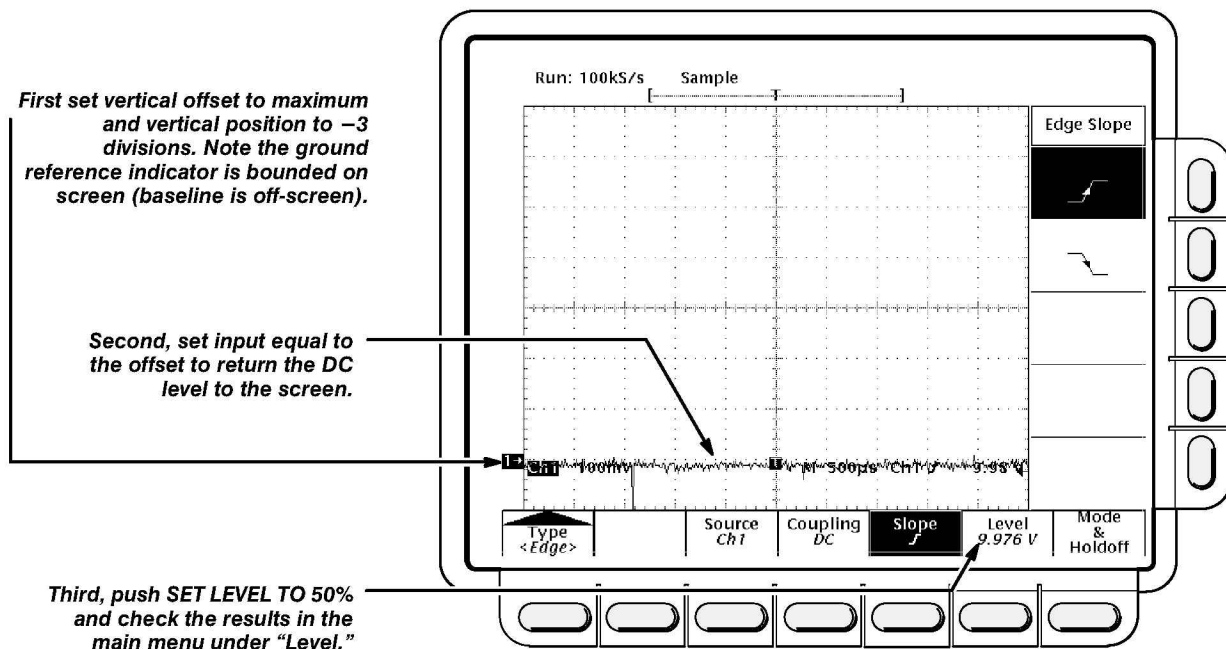

Figure 4-17: Measurement of Trigger-Level Accuracy
- CHECK that the **Level** readout in the main menu is within 9.863 V to 10.137 V, inclusive. See Figure 4-17.